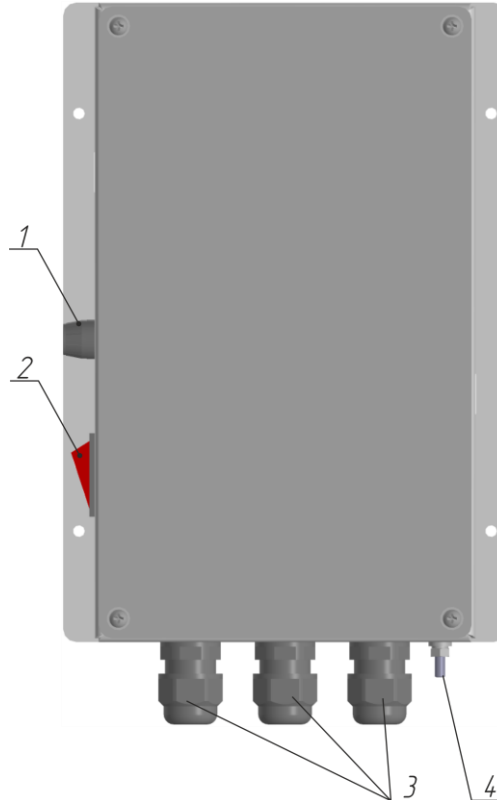

Figure 1 – the Product
1.3.1 The Product is manufactured in metal casing, where a piano type power switch (on/off) and fuse holder are located, see Figure 1.
Note – See positions (N^o) in Figure 1.